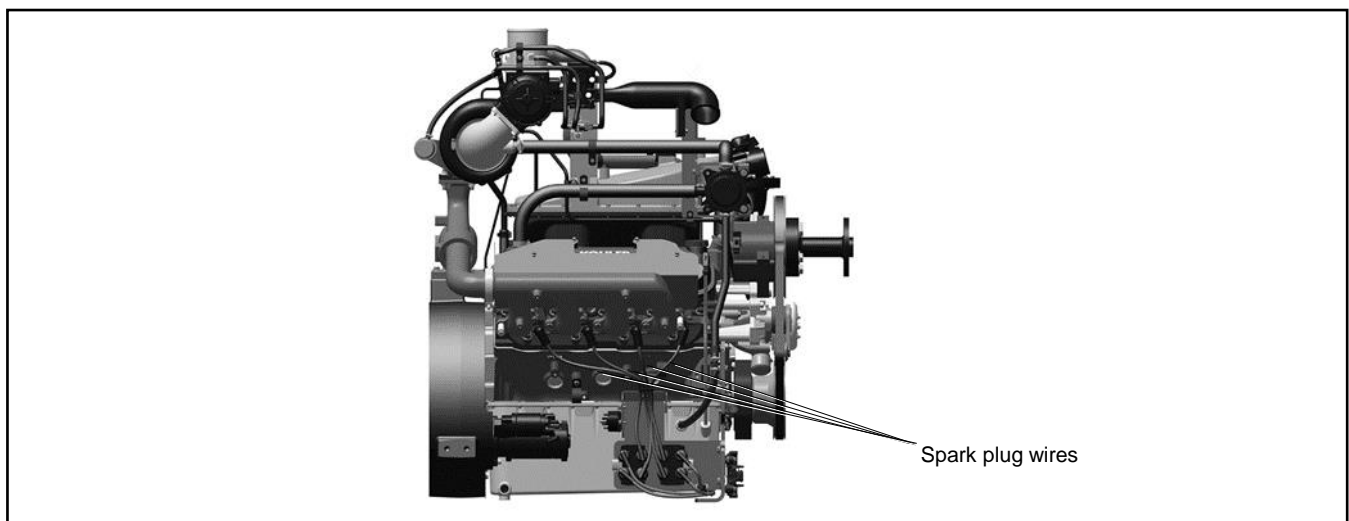

Figure 22 Spark Plug Wires
2. Use a cloth to wipe dirt and oil away from the area around each of the spark plug wires. See Figure 22.